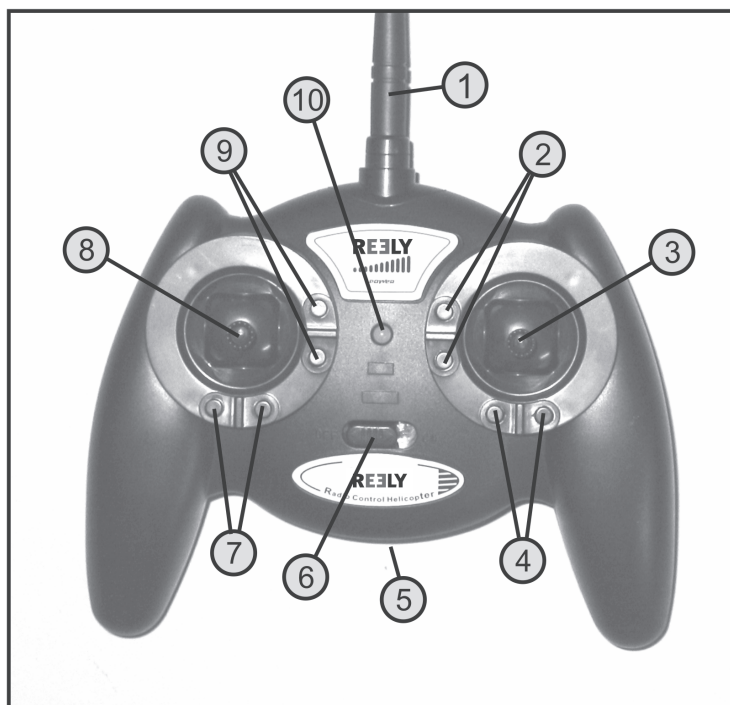
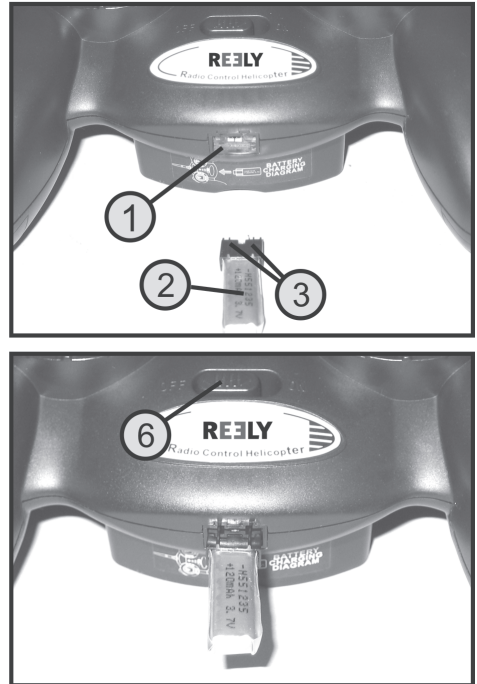

Figure 1
Figure 4
Move the control stick for the pitch and tail functions (also see figure 1, item 8) to the bottom position right at your body.
Slide the function switch (also see figure 1, item 6) from the left position "OFF" to the right position "ON".
The LED indicator (also see figure 1, item 10) is lit red and indicates that the transmitter is sufficiently supplied with power.
When the flight battery is connected to the transmitter (see figure 4, lower illustration), switch on the transmitter with the function switch (see figure 1, item 6).
The LED display at the transmitter (also see figure 1, item 10) is lit red first and starts flashing green after approx. 3 seconds.
Move the control stick for the pitch and tail functions (also see figure 1, item 8) to the bottom position and switch on the transmitter.